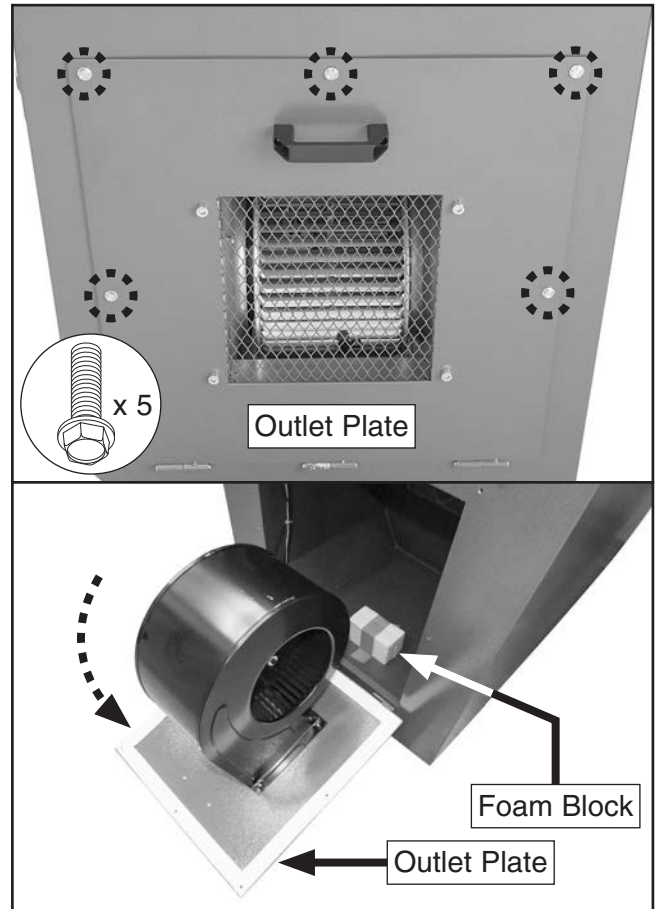

Figure 13. Location of packing material inside machine cabinet.
12. Remove (5) flange bolts from outlet plate, then open outlet plate (see **Figure 13**).
13. Remove all packing material and foam blocks located in cabinet interior (see **Figure 13**).
14. Close outlet plate and install (5) flange bolts removed in **Step 12**.